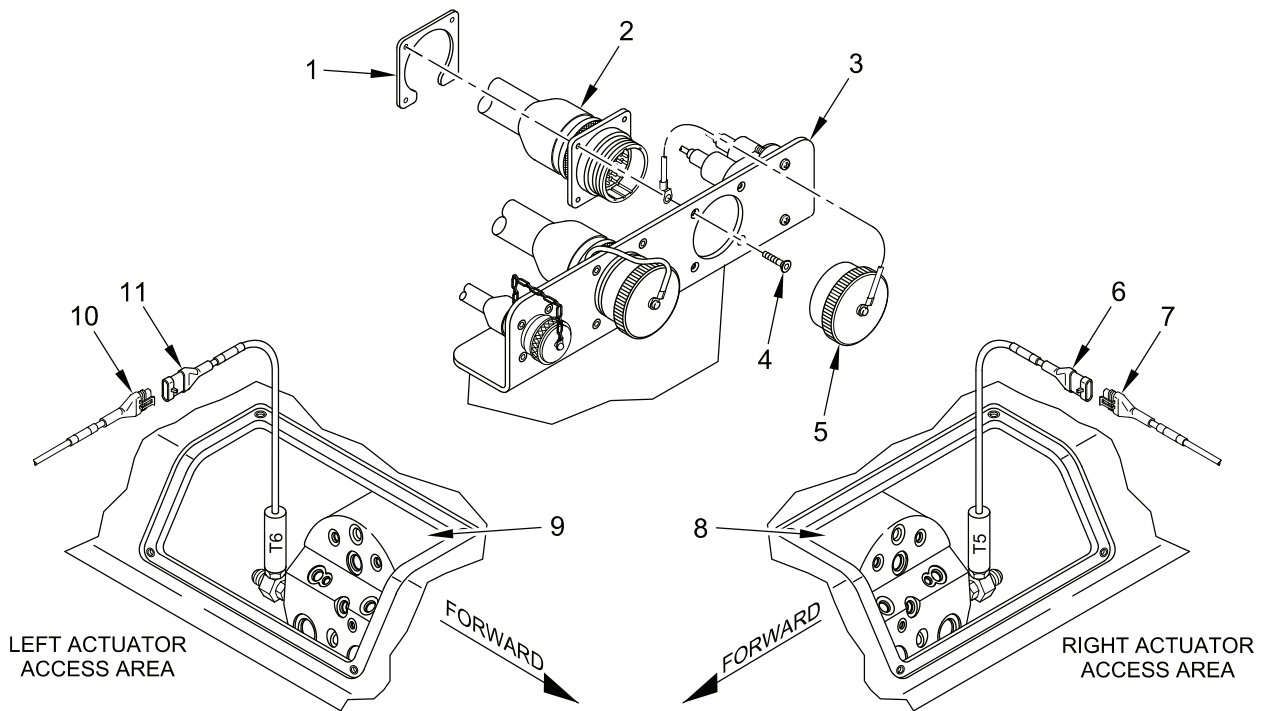

Figure 1. Removing Wiring Harness W3 From Disconnect Bracket And Actuator Area
1. Remove dust cap (Figure 1, item 5), four screws (Figure 1, item 4), nutplate (Figure 1, item 1), and wiring harness W3 connector J1 (Figure 1, item 2) from HDC disconnect bracket (Figure 1, item 3).
2. Remove wiring harness W3 connector P5 (Figure 1, item 7) from transducer T5 (Figure 1, item 6) at forward right actuator #1 (Figure 1, item 8).
3. Remove wiring harness W3 connector P31 (Figure 1, item 10) from transducer T6 (Figure 1, item 11) at forward left actuator #1 (Figure 1, item 9).